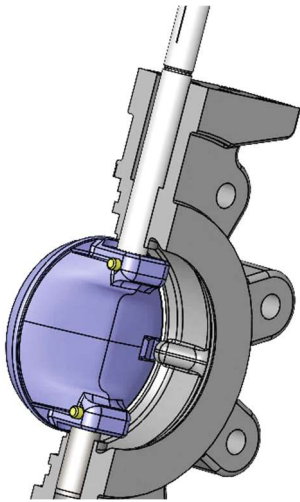

Figure 9: Disk and Pin Engagement
- Turn the shaft flats to allow the taper pins to slide through the disk pin holes and engage the shaft as shown in the Figure 9. Insert new taper pins in the direction that is towards the limit stop in the body. Drive them firmly into place with a hammer. Peen the disk surface a minimum of 5 locations within 0.06 inch of the taper pin outer diameter. If welding, tack weld between the taper pin and the disk in two opposite locations.